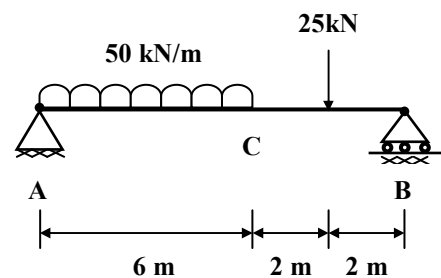

FIGURE- 6 Q-4 (a) OR
Q.4 (a) Calculate the slope at supports A and B terms of EI for the beam as shown in *figure-6*. **07**